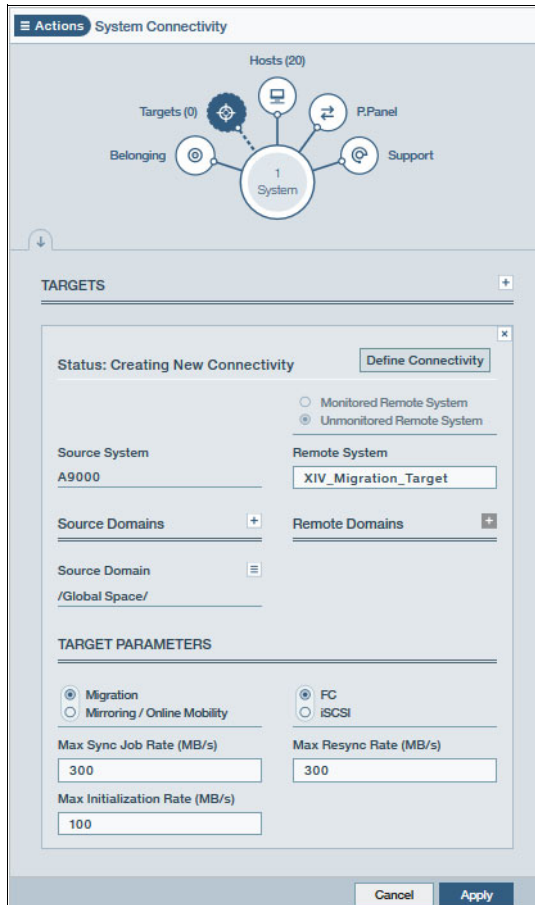

Figure 4-19 Defining a Target in IBM FlashSystem A9000
2. Click **Actions** → **Targets** → **View/Modify Targets** and click the icon to add a target, as shown in Figure 4-19.
3. Enter the following information and select the following options, as shown in Figure 4-19: